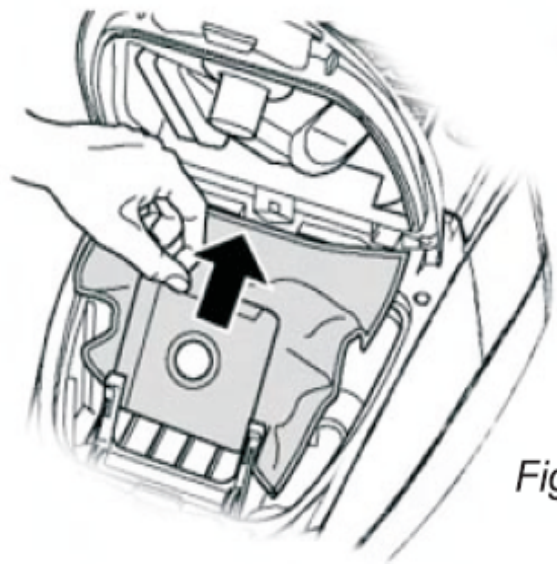

Fig.19
5. Push the new dust filter bag in the filter bag holder. (Fig. 19)
3. Pull the dust filter bag up and out of the dust filter. (Fig.19).